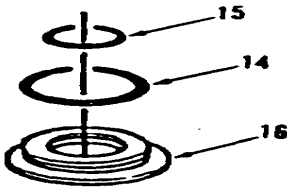

Figure 6-33.
- 15. Install new preformed packings (15 and 14) onto retainer (16, Figure 6-33).